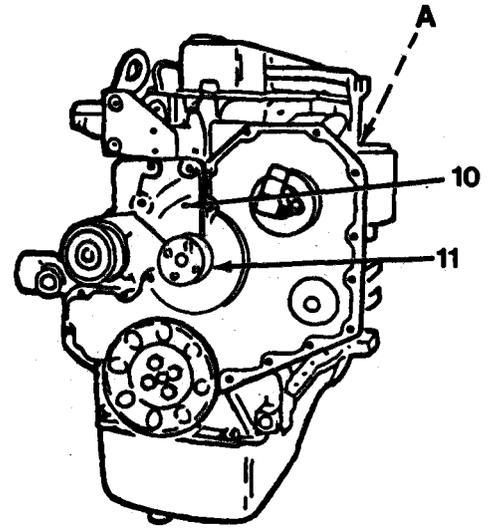

Figure 6-3
3. Install plug A, fan hub (11) and four cap-screws (10, Figure 6-3). Torque four cap-screws (10) to 18 lb-ft (24 N•m).